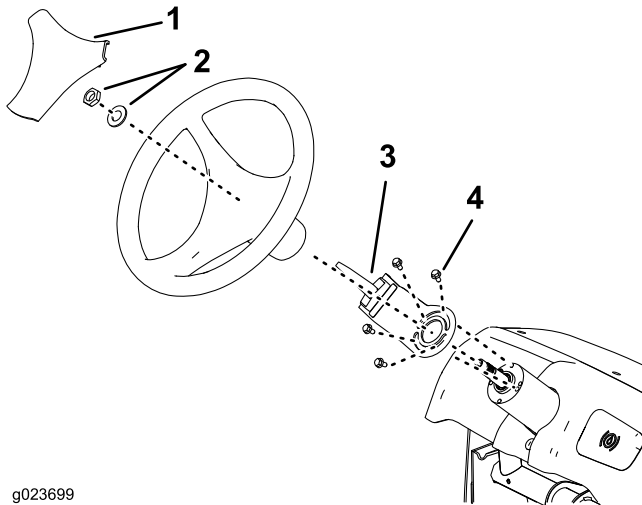

Figure 3
2. Remove the steering wheel cover plate, remove the steering wheel hardware, and pull the steering wheel off the column (Figure 3).
3. Slide the switch bracket onto the steering wheel column, and secure the bracket with the 4 bolts (Figure 3).
**Foam paddle switch**—activates the compressor, generating a flow of foam and air to the right or left boom section (Figure 3).